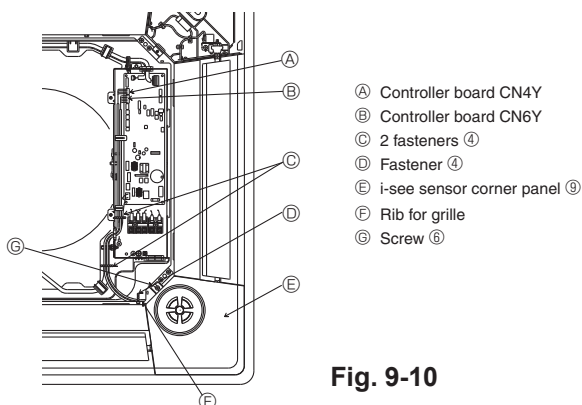

Fig. 9-10
- ① Refrigerant piping of the main unit
- ② Drain piping of the main unit
- ③ Initial position of the corner panel (logo attached)
- ④ Initial position of the levers on the intake grille
- ⑤ Receiver (Only PLP-6BALM, PLP-6BALME Panel)
- ⑥ i-see sensor (PLP-6BAE, PLP-6BAMDE, PLP-6BALME panel)
9.6. Installation of i-see sensor corner panel (Fig. 9-10)